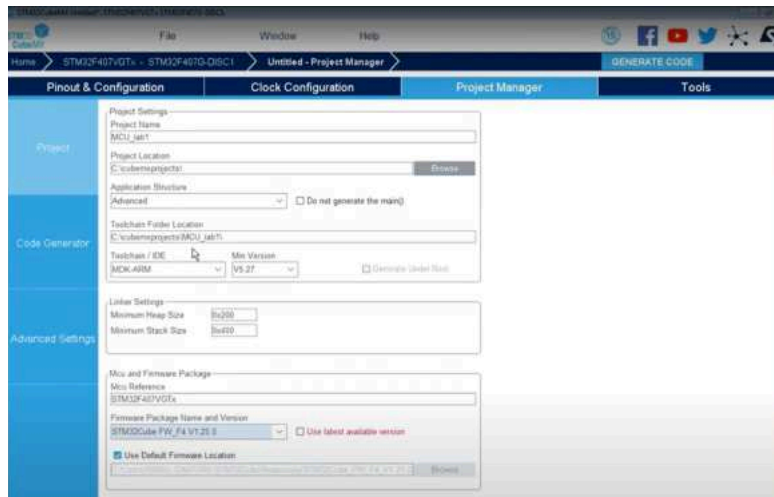
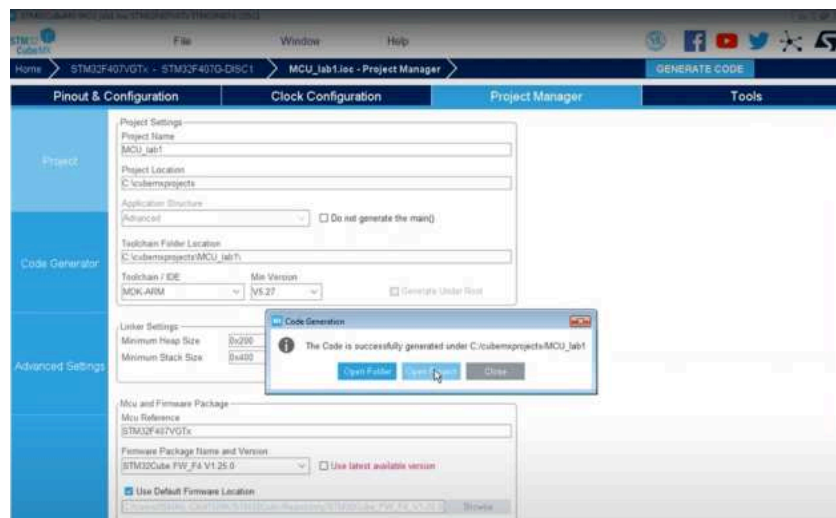

Figure 10
Figure 11
- There is nothing we can change in the Clock Configuration section for this experiment. Come to the Project Manager menu and set the fields as in Figure 10 (Give the project name using English characters without spaces. You can create the project in a file on the desktop. Select the MDK-ARM option for Toolchain/IDE. Uncheck 'Use latest available version' to prevent it from updating). Then select the Generate Code and so the template file is out. Select “Open Project” from the opened screen (Figure 11). Keil μ Vision will be opened.